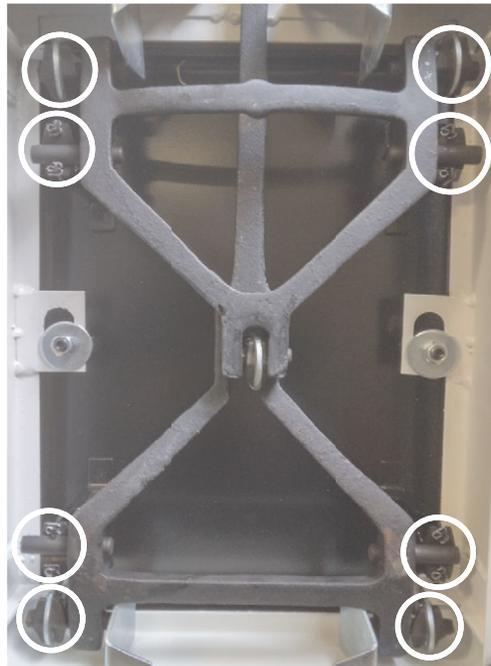

Figure 4-1. Eight Pivot and Bearing Locations
1. Position the scale on its side to reveal the pivot and bearing locations underneath (see Figure 4-1).